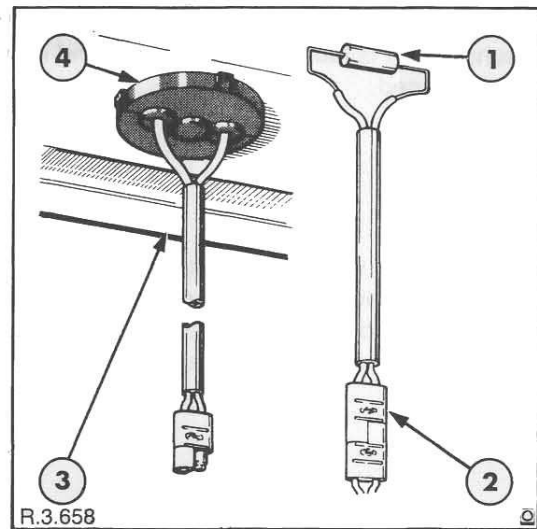

Figure 10
If battery voltage is not registered, disconnect the harness to sensor plug and connect a 205 ohm resistor across the plug terminal, Figure 10.
NOTE: It is recommended that a permanent test piece be made by removing the plug and leads from an old sensor unit and connecting a 205 ohm resistor as shown in Figure 10.
7. Disconnect the harness to sensor plug and connect a 205 ohm resistor across the plug terminals. Refer to Figure 10.